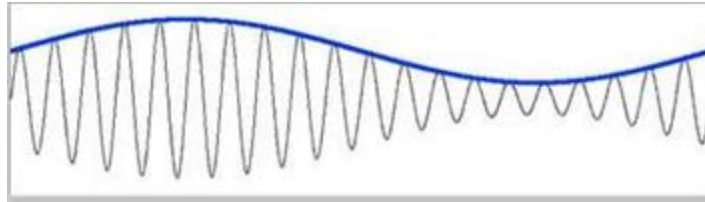

Figure 1: AM waveform
Amplitude Modulation (AM) is an analog modulation technique in which the amplitude of a high-frequency carrier signal varies in proportion to the instantaneous amplitude of the modulating signal, while the carrier frequency remains constant. Increasing the modulation depth increases the variation in the carrier envelope. Excessive modulation depth can lead to over-modulation and waveform distortion, as shown in Figure 1.